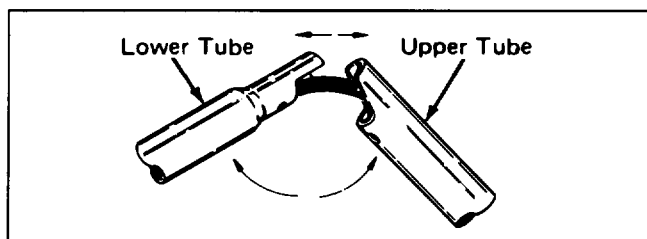

Figure 2
2. Pivot tube ends until aligned (Fig. 2).